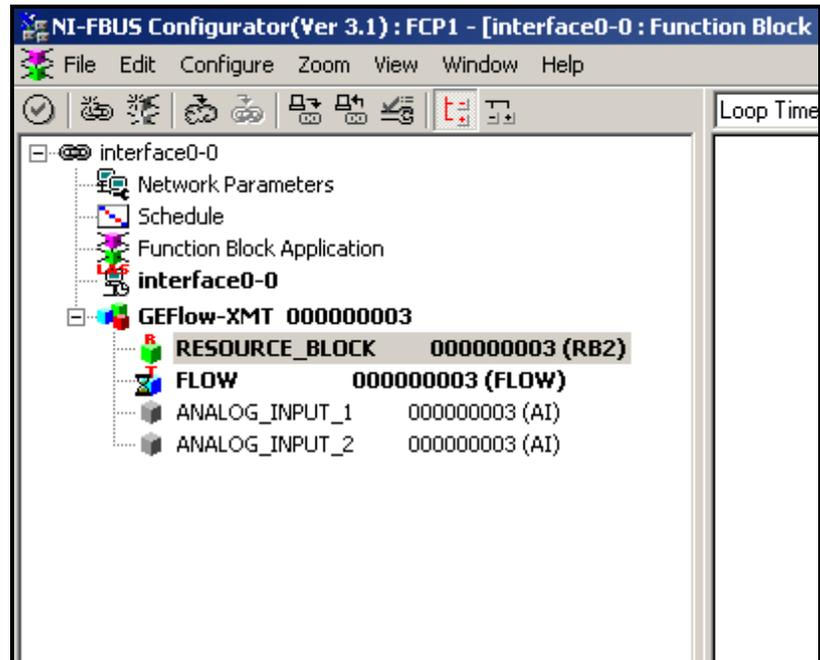

Figure D-1: Configuration Utility Setup Example
Figure D-1 below shows the Configuration Utility with a flowmeter on the network (GE Flow-XMT).
1. Double click on the AI block for which you wish to set the units (ANALOG_INPUT_1 or ANALOG_INPUT_2 in the tree under GEFLOW-XMT; see Figure D-1 on page D-2).
1. Double click on the FLOW transducer block (in the tree under GEFlow-XMT; see Figure D-1 on page D-2).